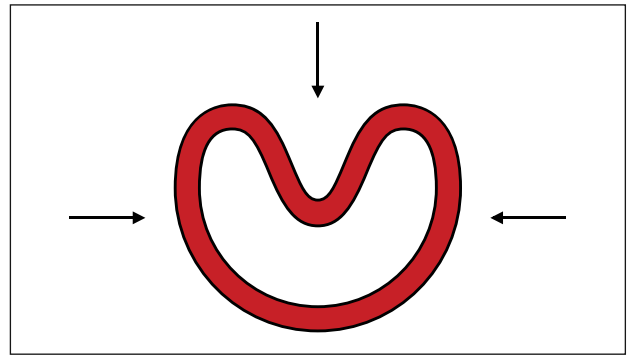

Figure 18: Deformation of the seal ring into kidney-shape.
- Compress the HaaCap seal into a kidney shape, taking care to avoid sharp bends that could stress the material (see figure 18). For rod seals with notches, ensure that the seal is not bent at the notched areas, as this may lead to overstretching or damage to the seal material.